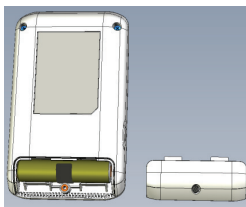
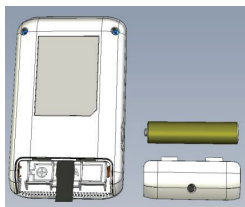

Fig. 1a
Fig. 1b
7.2.1 To install/replace the battery, unscrew and remove the battery compartment cover on the back of the device (Fig. 1a). Remove the old battery (if one is present) using the built-in cloth strip; insert the new battery following polarity indications marked inside the battery compartment, (Fig. 1b), replace cover and tighten screw.